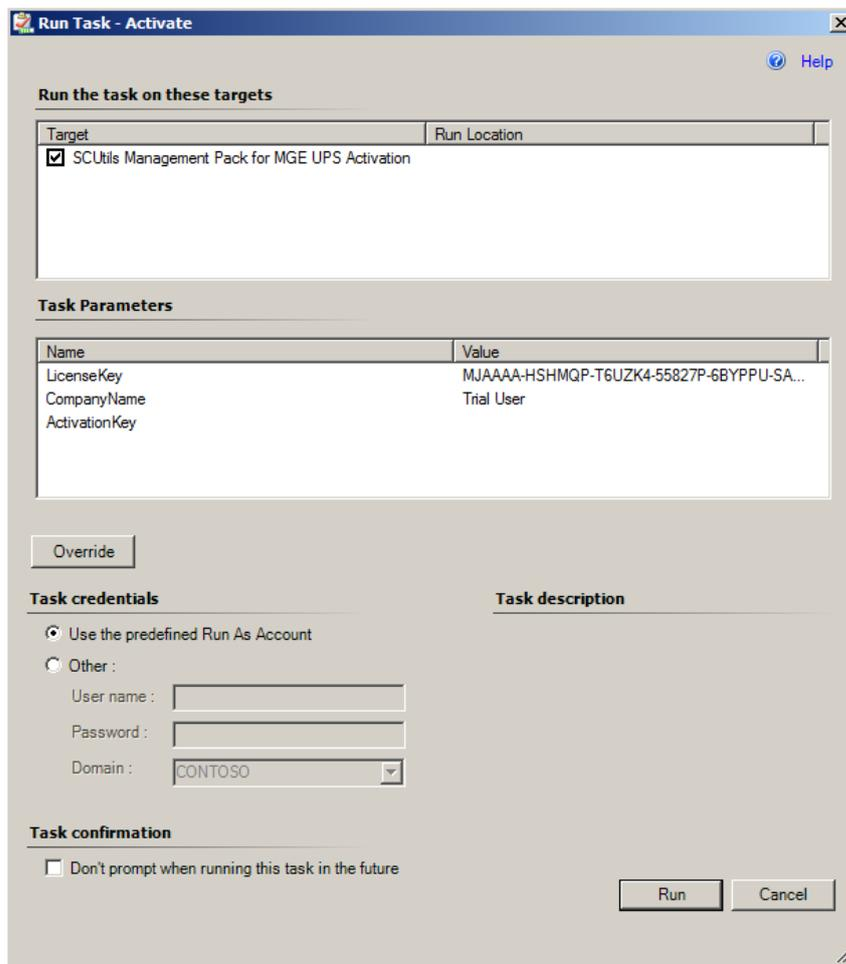

Fig.4 SCUtils Management Pack for MGE UPS Activation
5. **Run Task - Activate** window will be opened (Fig.4).